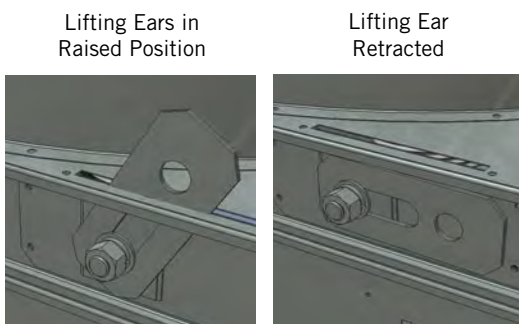

Figure 2. Lifting Ears
4. After the lower section of the unit is in place, retract the lifting ears (where applicable) inside the unit to avoid interference when the upper section of the unit is positioned as illustrated in **Figure 2**.